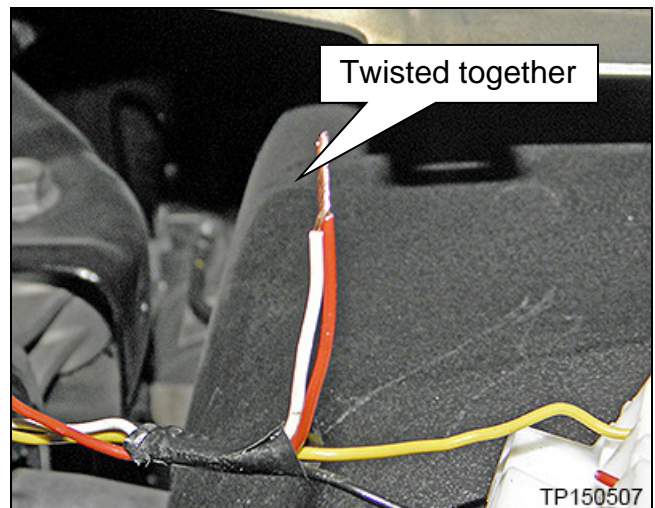

Figure 8
10. Twist the red and white wires together (Figure 8).